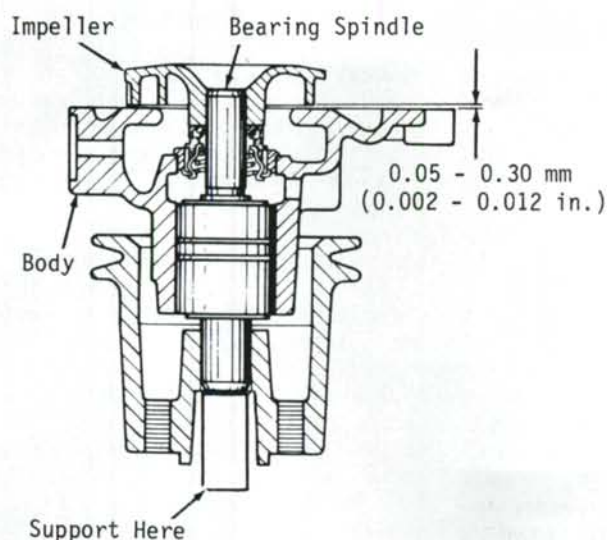

Fig. 125—Support pulley end of shaft, then press impeller onto shaft until desired clearance between impeller and body is obtained.
and seal ring (6) with smooth sealing surfaces facing together. Support pump shaft at pulley end (Fig. 125), then press impeller onto shaft until clear-